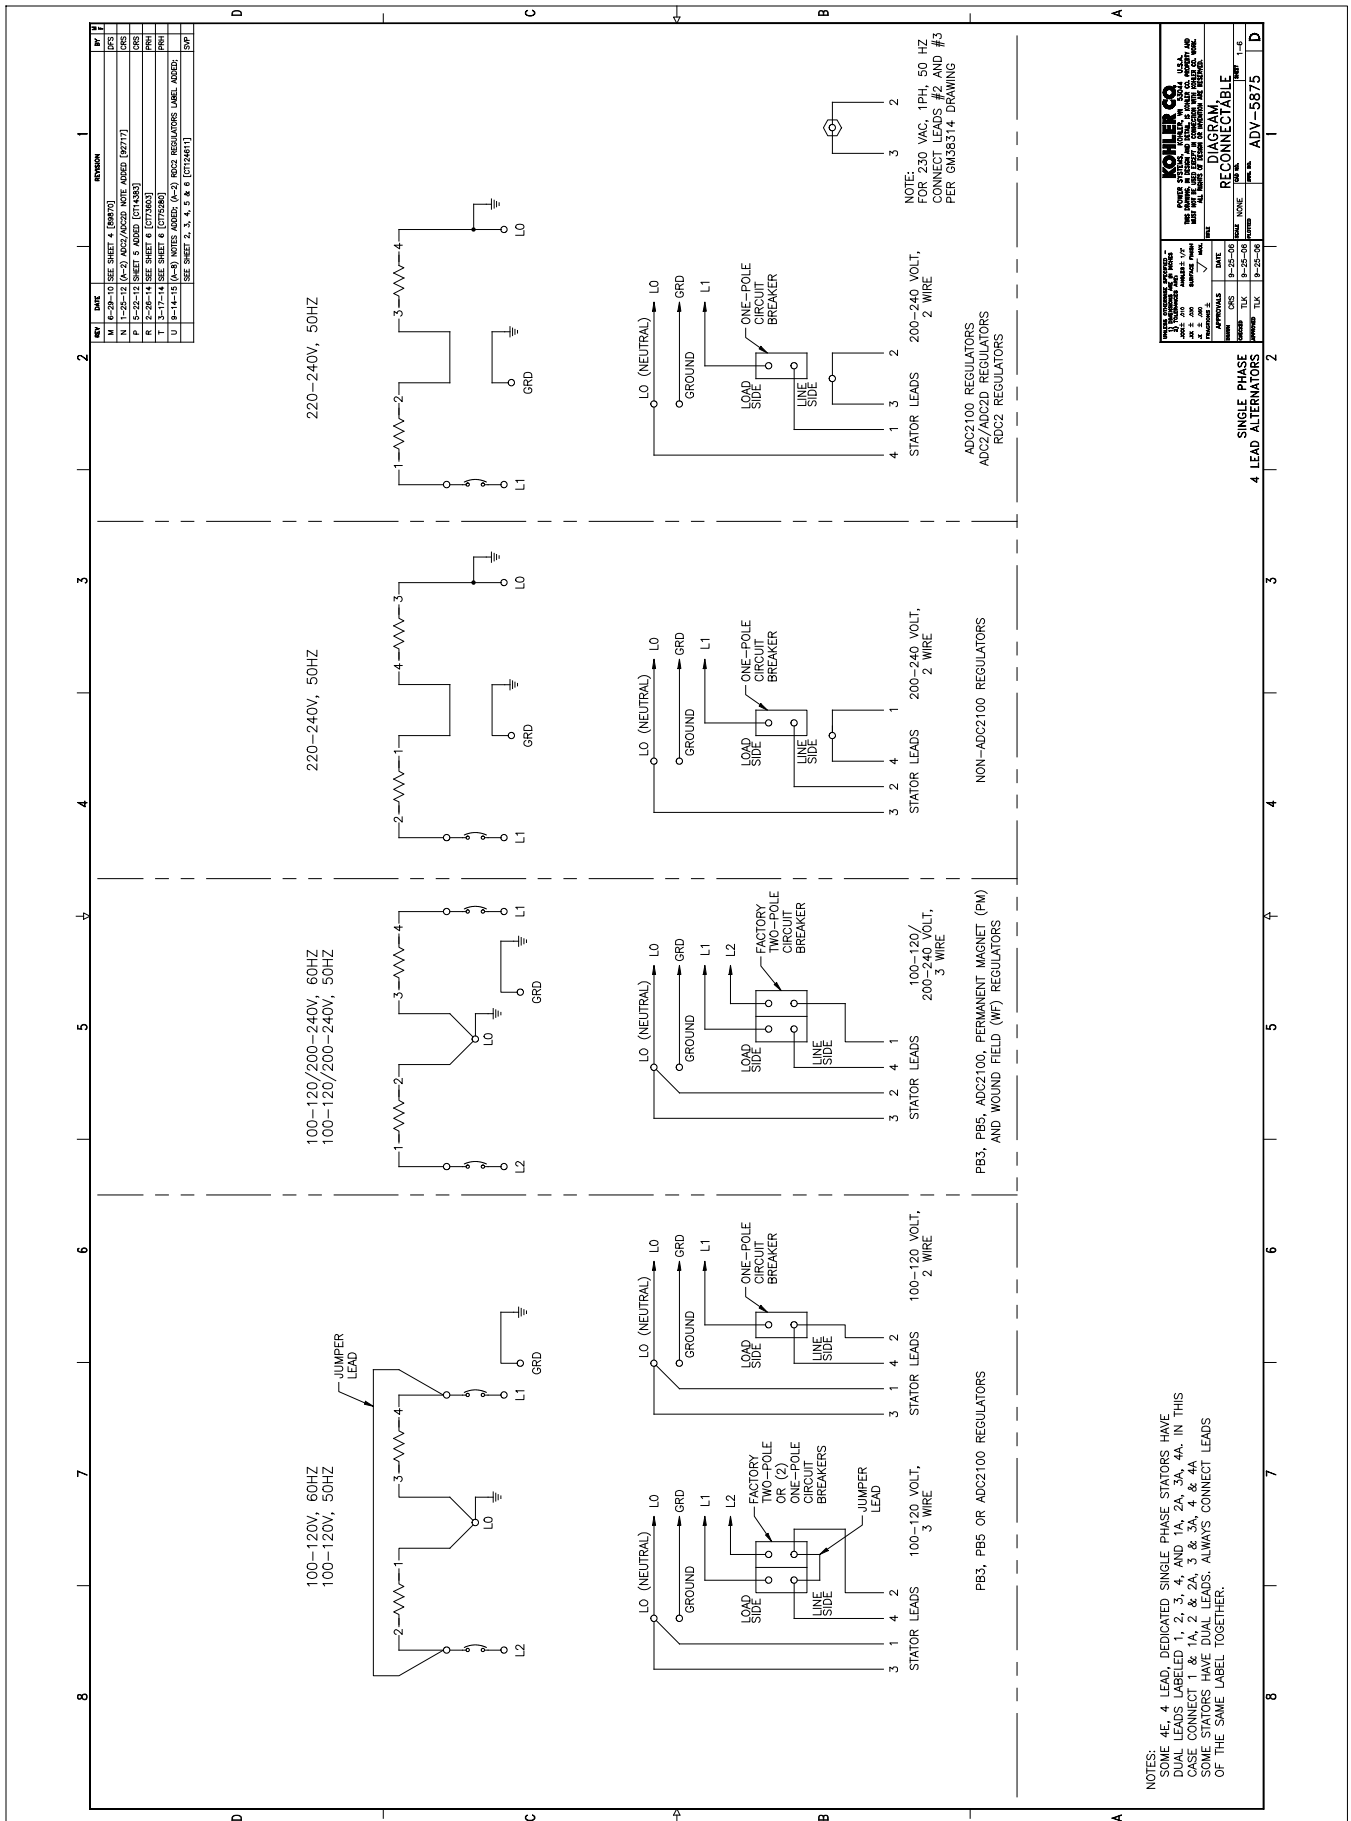
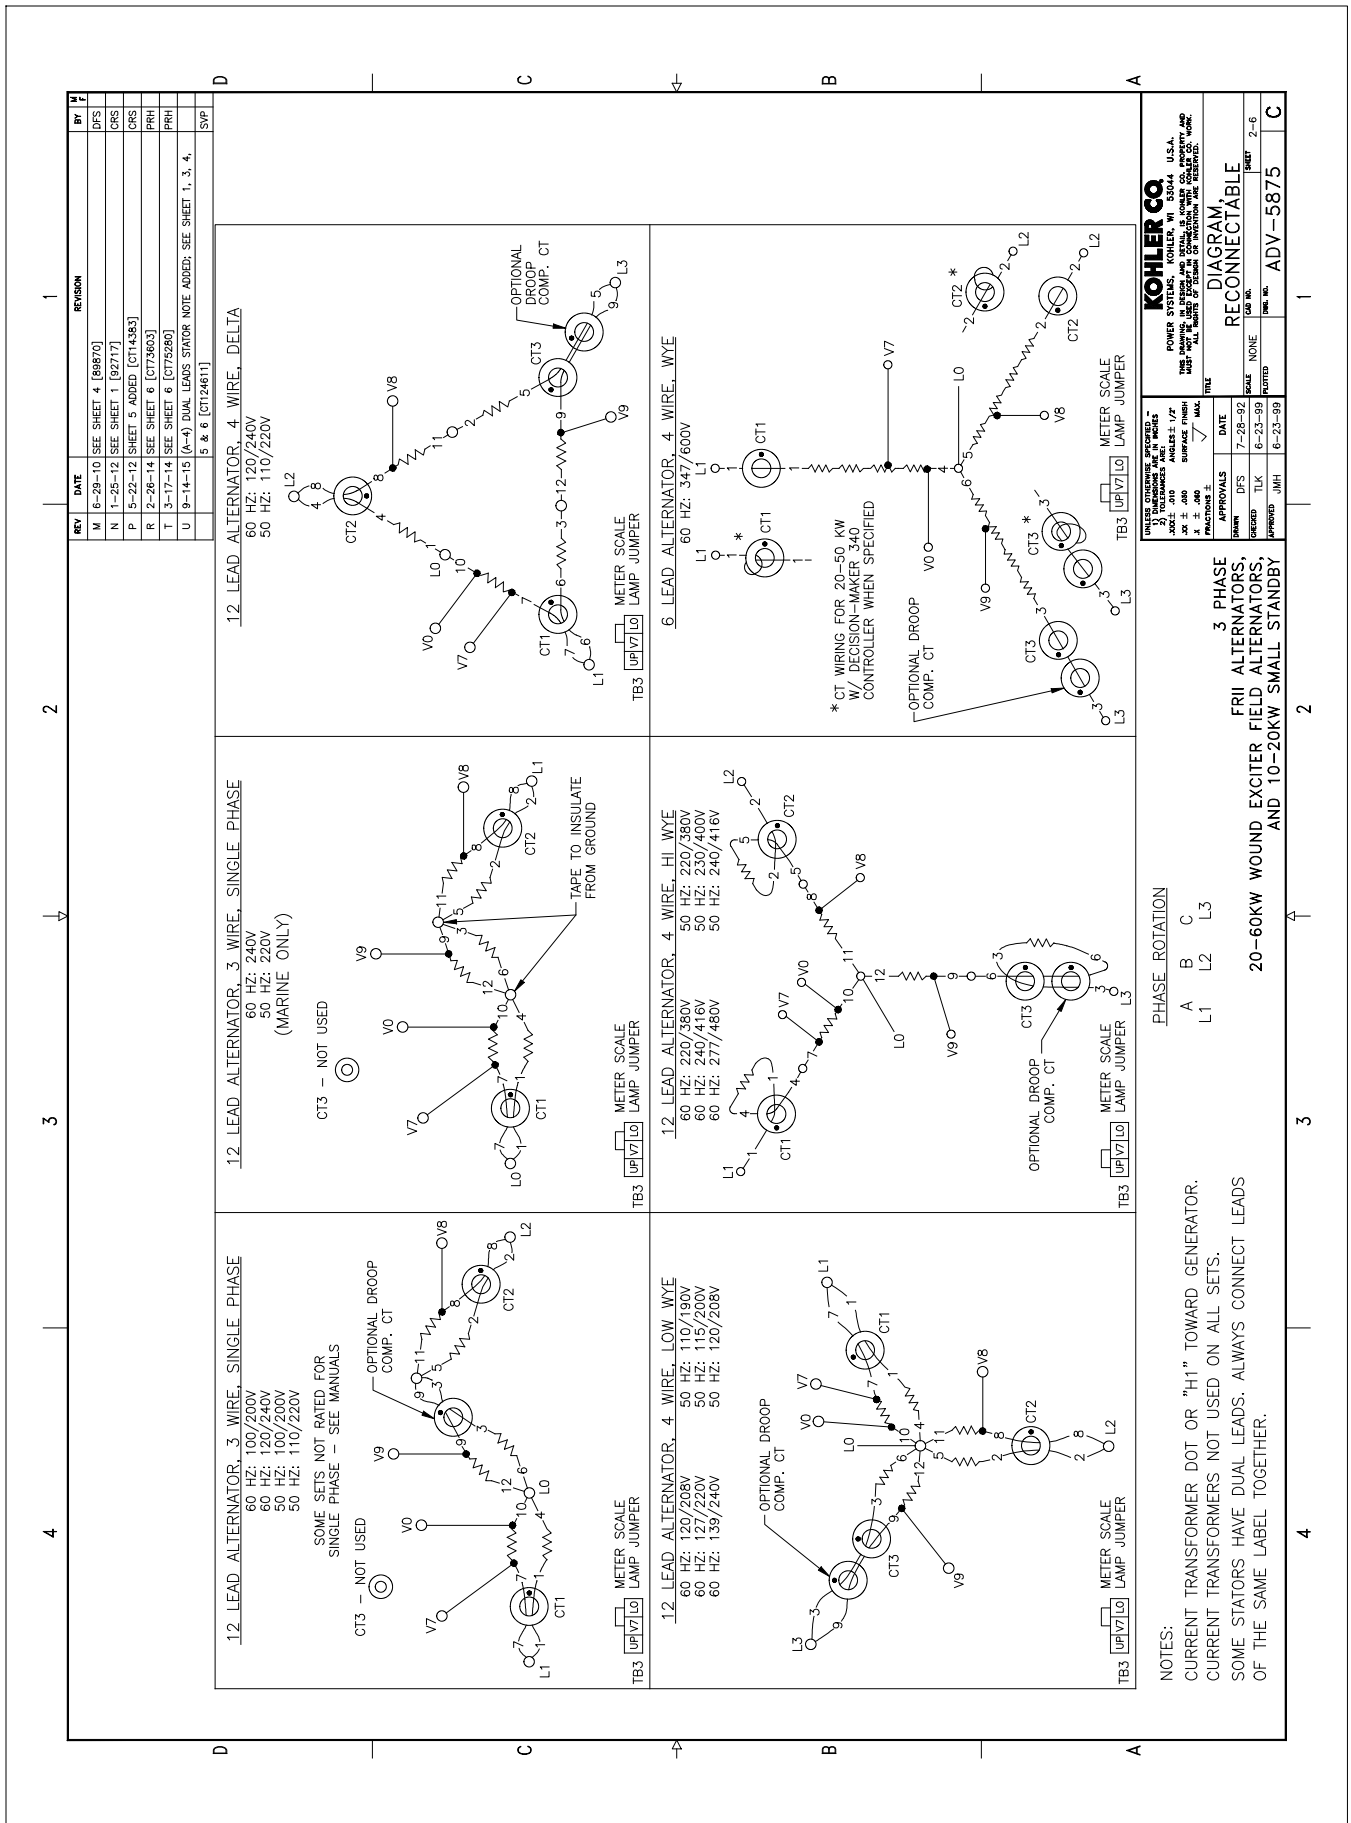
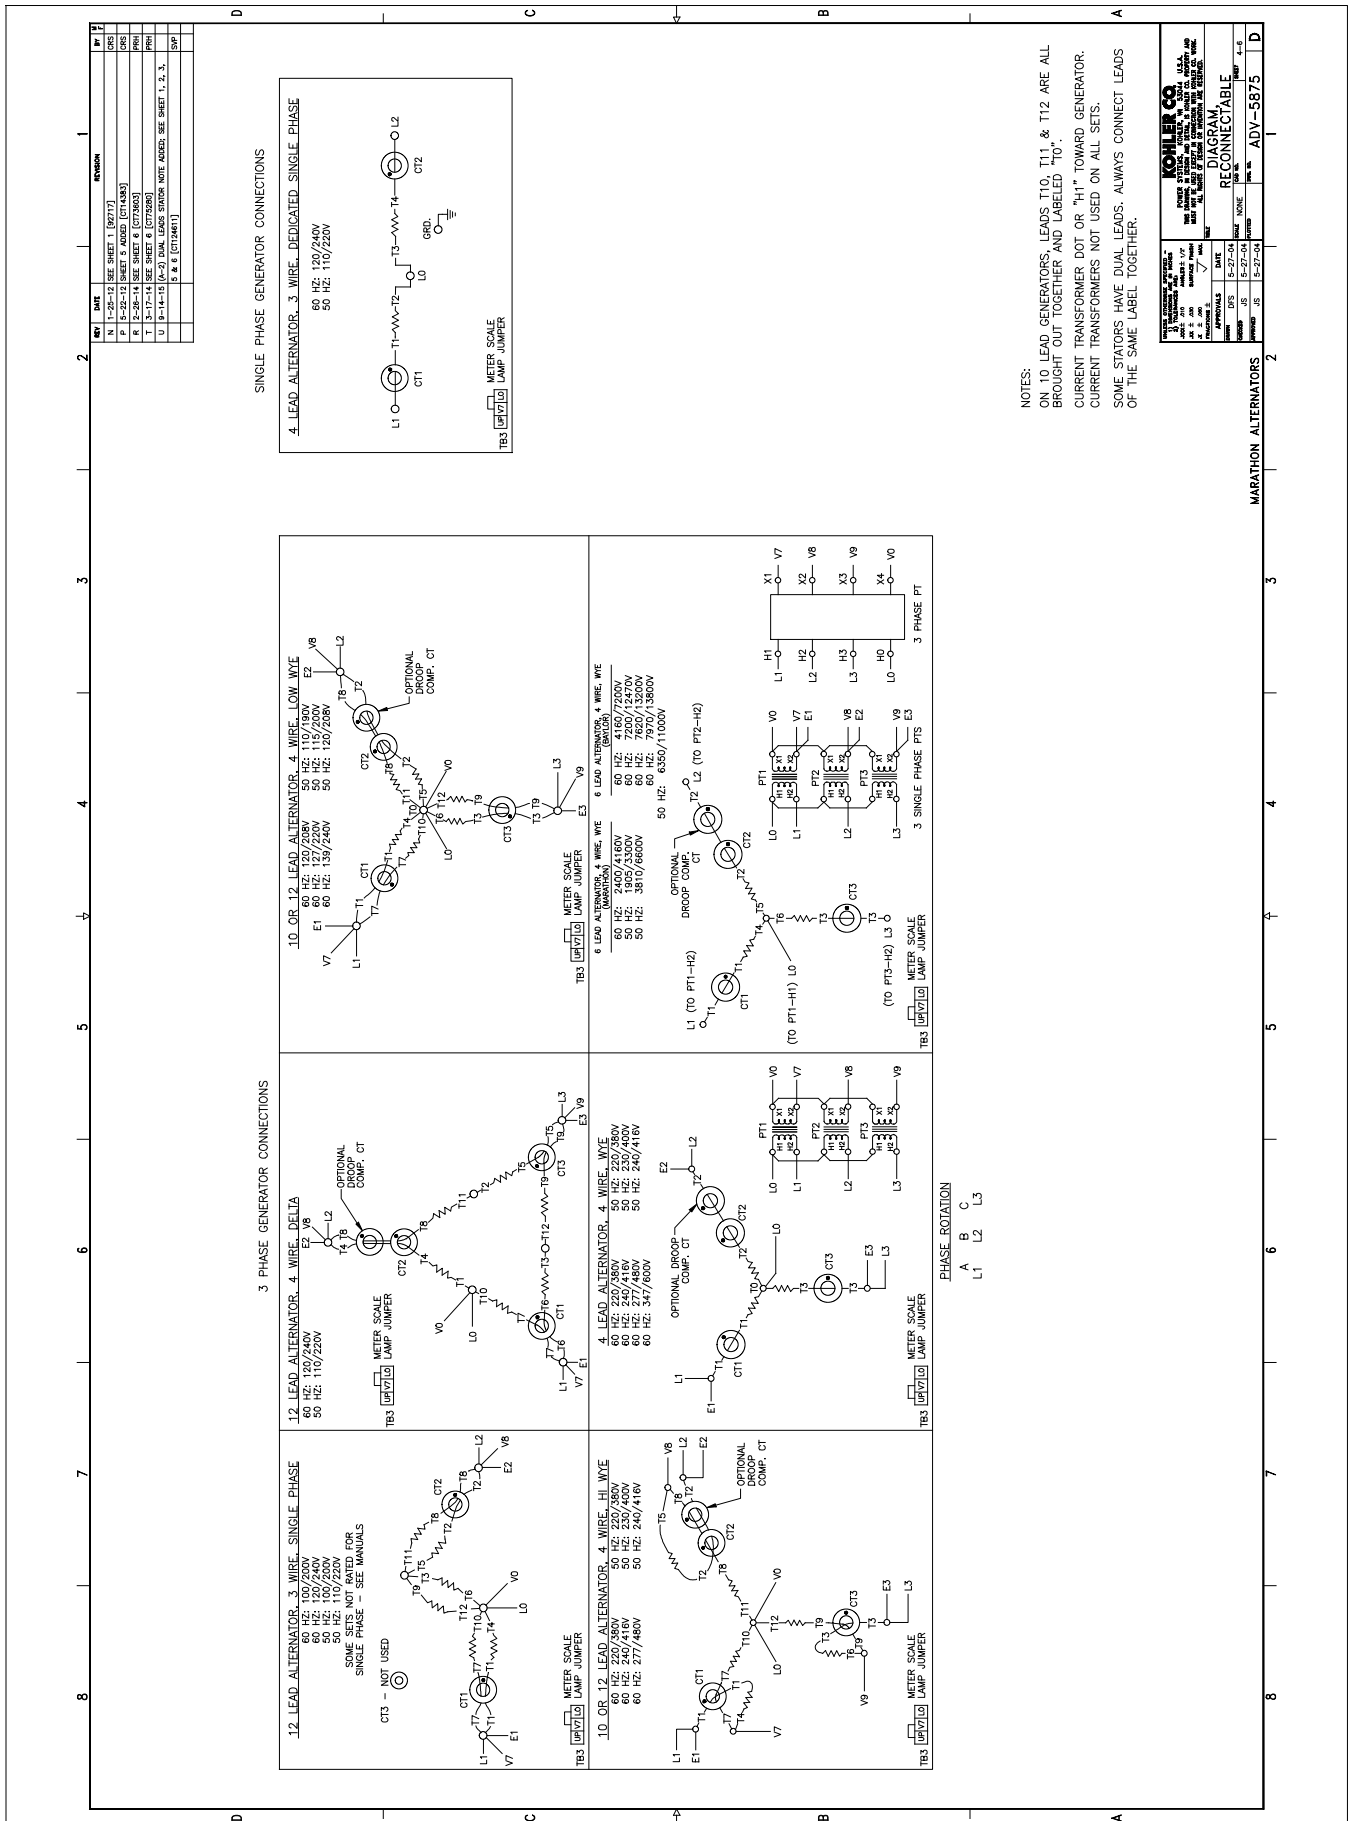

Figure 5-1 20-150 kW Permanent Magnet and Wound Field Single-Phase Alternators, ADV-5875U-1
Figure 5-2 20-400 kW Permanent Magnet and 20-60 kW Wound Field Alternators, ADV-5875U-2
Figure 5-3 350 kW and Larger Pilot-Excited, Permanent Magnet Alternator, ADV-5875U-4
3. Use Figure 5-1, Figure 5-2, or Figure 5-3 to determine the generator set voltage configuration. Note the original voltage and reconnect as needed. Route leads through current transformers (CTs) and connect them according to the diagram for the desired phase and voltage.